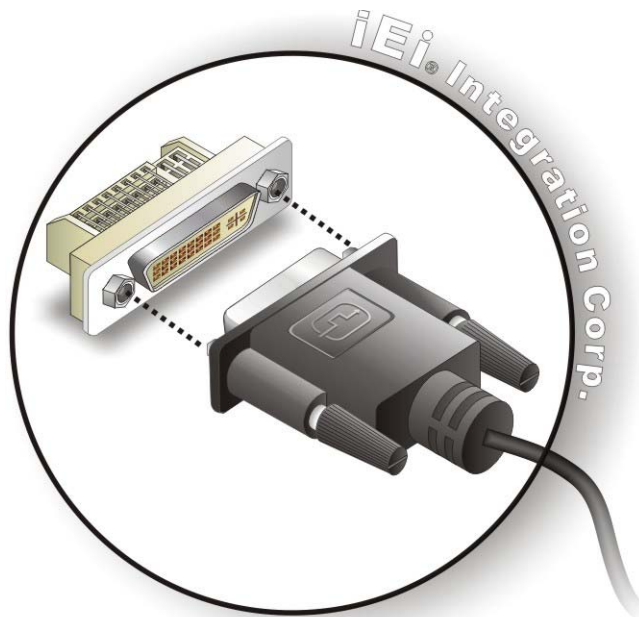

Figure 4-20: DVI-D Connector
Step 3: Insert the DVI-D connector Once the connectors are properly aligned with the male connector, insert the male connector from the digital display device into the female connector on the KINO-AA750-i2. See **Figure 4-20**.